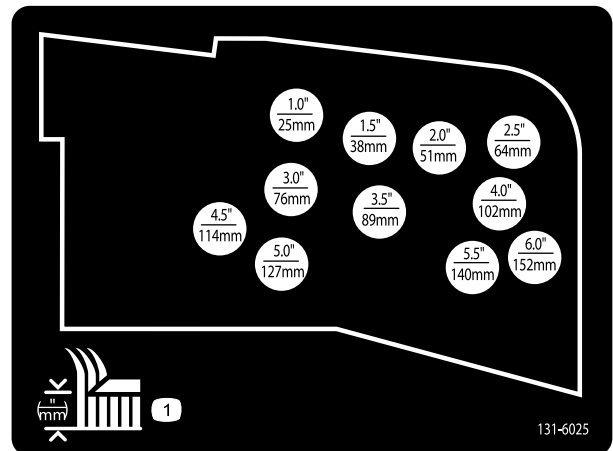

Figure 21
- Mount the height-of-cut chains to the desired height-of-cut hole with the clevis pin and hairpin cotter (Figure 21).